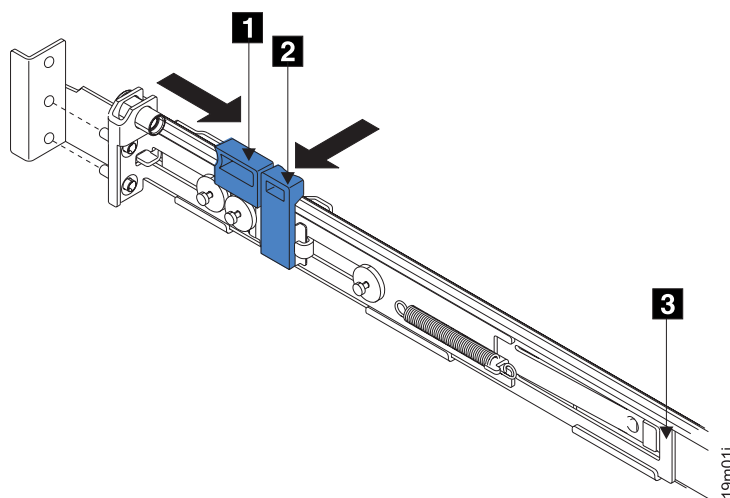

Figure 41. Opening the back latch-lock carrier assembly
5. Push the back rail bracket **1** (Figure 41) toward the front of the rail until it stops. The rail is now at its shortest adjustment.